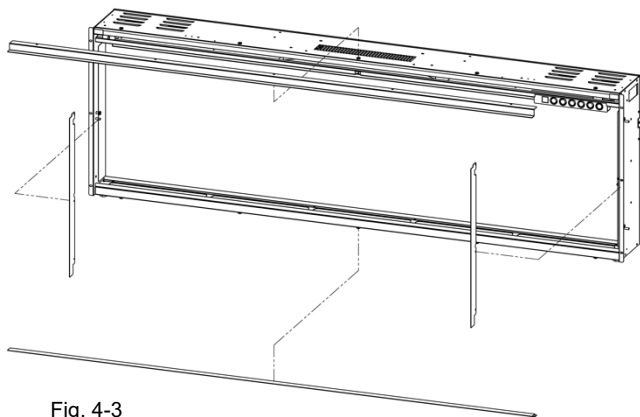

Fig. 4-3
- Remove the Slide-In Frame and store it in a safe place (Fig. 4-3)